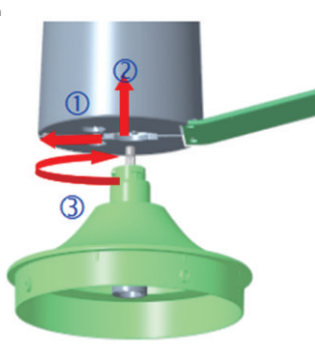

Fig. 5
- Before inserting the chopper lid to the mixer door, firstly you use chopper lid head to lever the mixer door, then push it down, finally rotate it anticlockwise until they click into place(if you can not hear they click into place, you may have to push it down and rotate it anticlockwise until the head really reach the bottom place). Check they are in securely and correctly. (Fig 5)